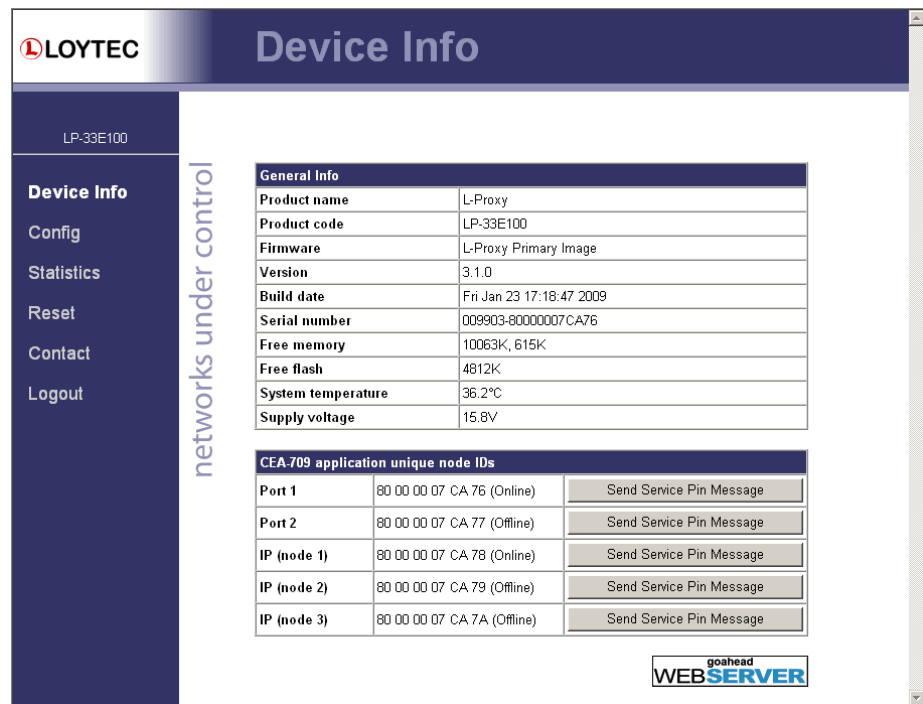

Figure 30: Device Information Page
5. The device information page should appear as shown in Figure 30.